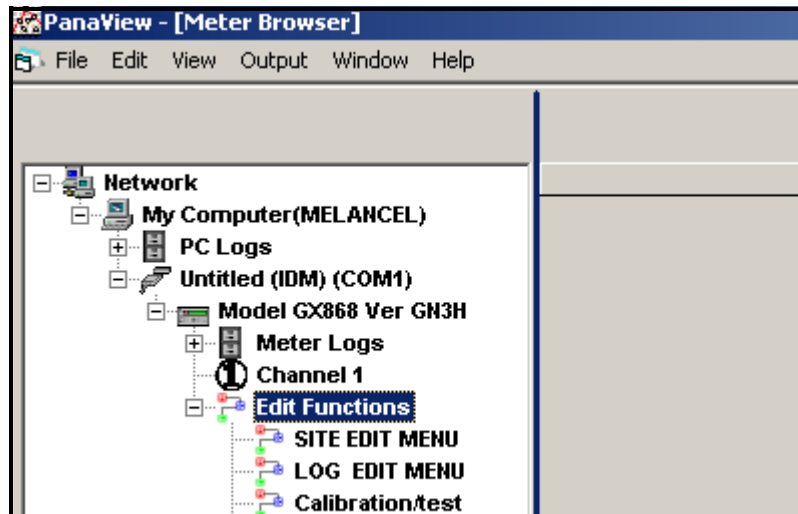

Figure 36: Meter Tree with *Edit Functions* Option
4. From the meter tree, expand the *Edit Functions* option. The window now appears similar to Figure 36 below, with a list of available menus. The menus listed are those available on the meter.